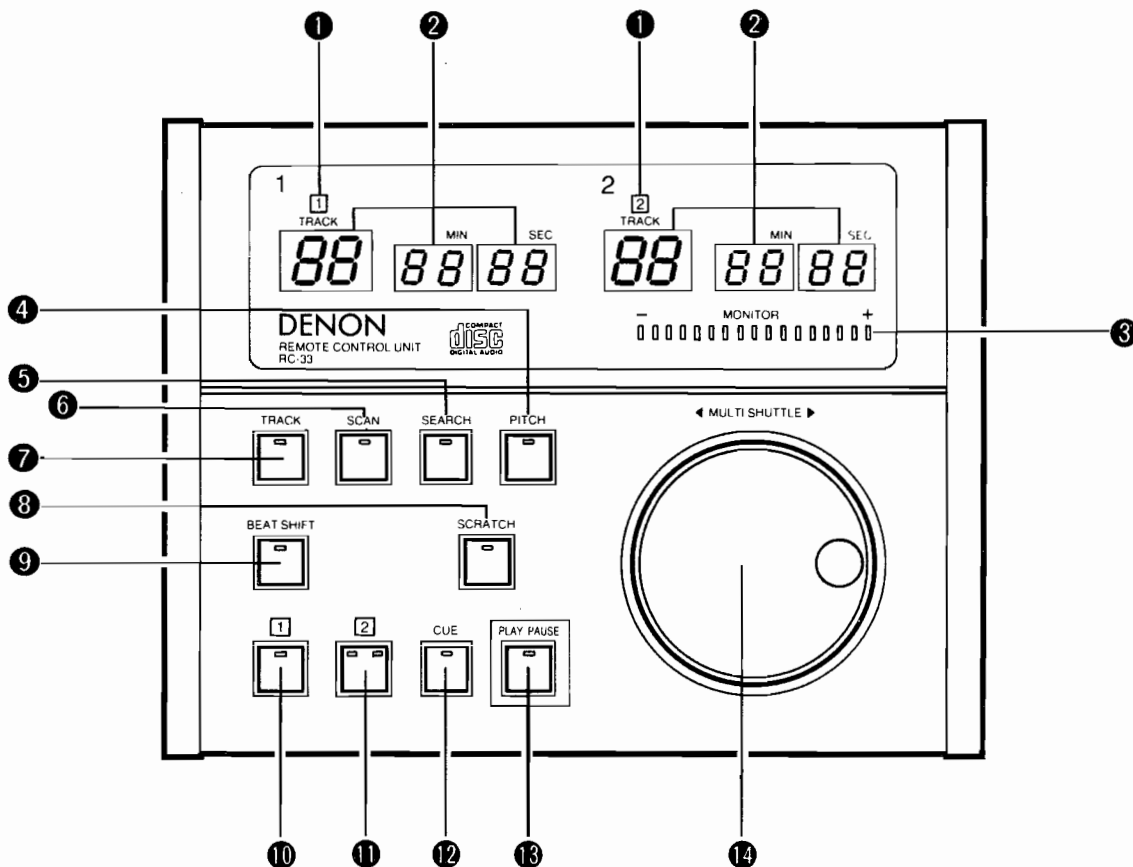

Figure 10
① Player selection ([1] or [2])
All operations on either CD-1 or CD-2 are possible using the RC-33. The CD player is selected using the [1] and [2] buttons (⑩ and ⑪ in Figure 10). When selected, the LED(s) on the button and the corresponding player select indicator at the top of the RC-33 (① in Figure 10) lights. When the power is first turned on or after CDs are loaded, neither player is selected, so operation is not possible from the RC-33. First press a CD select button whose LED is flashing to select the CD player.